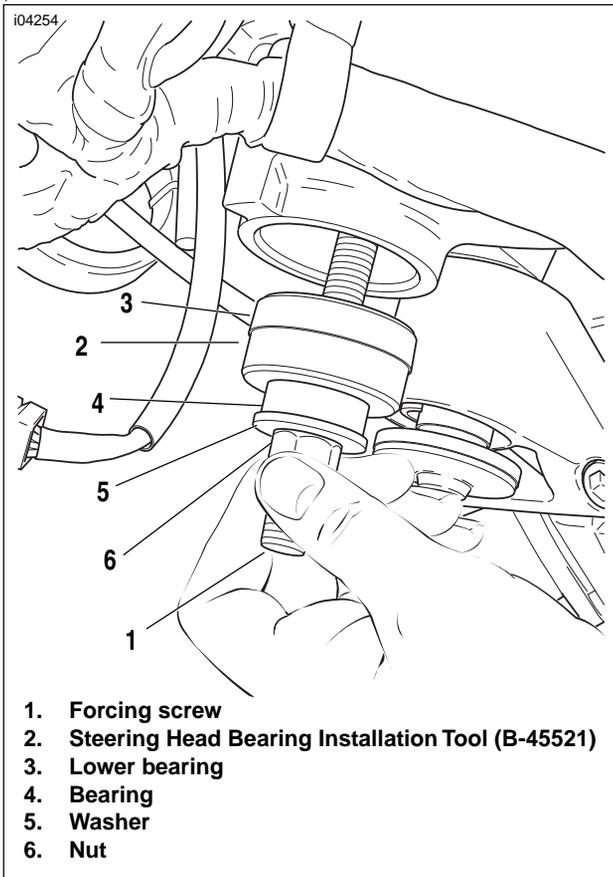

Figure 2-79. Lower Bearing
- See Figure 2-79. Sparingly apply Extreme Pressure Lubricant (J-23444-A) to the threads of the forcing screw (1) from the Steering Head Bearing Race Installer (HD-39302), to prolong service life and ensure smooth operation. Insert the forcing screw (1) through the Steering Head Bearing Installation Tool (B-45521) (2).